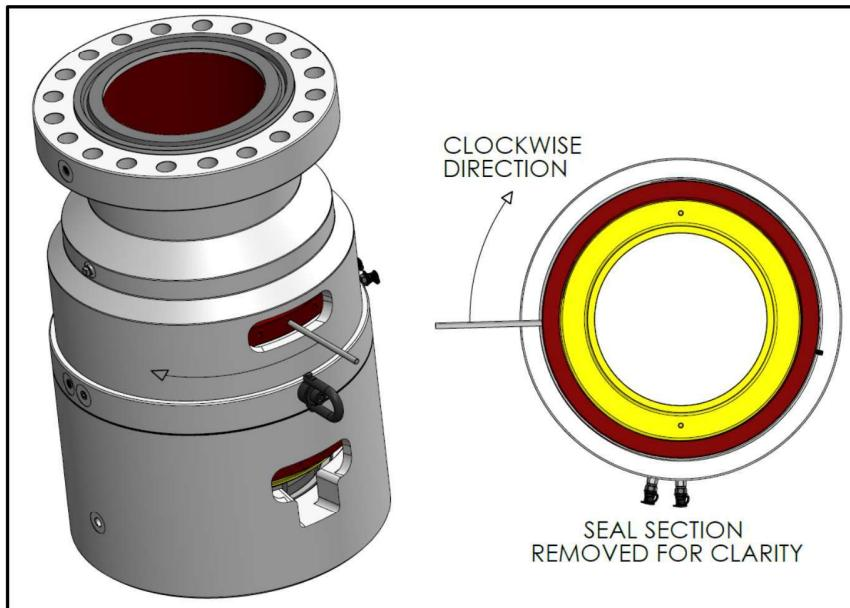

Figure 7
6. Verify that the Seal Retaining Ring is bottomed out on the Middle Section. Rotate the Seal Retaining Ring with a tommy bar until it is bottomed out as shown in Figures 7 & 8.
8. Spin the Seal Side Retaining Ring in a clockwise direction, looking from the flanged end, with the supplied tommy bar until it is bottomed out on the Middle Section. See Figure 7 and 8.